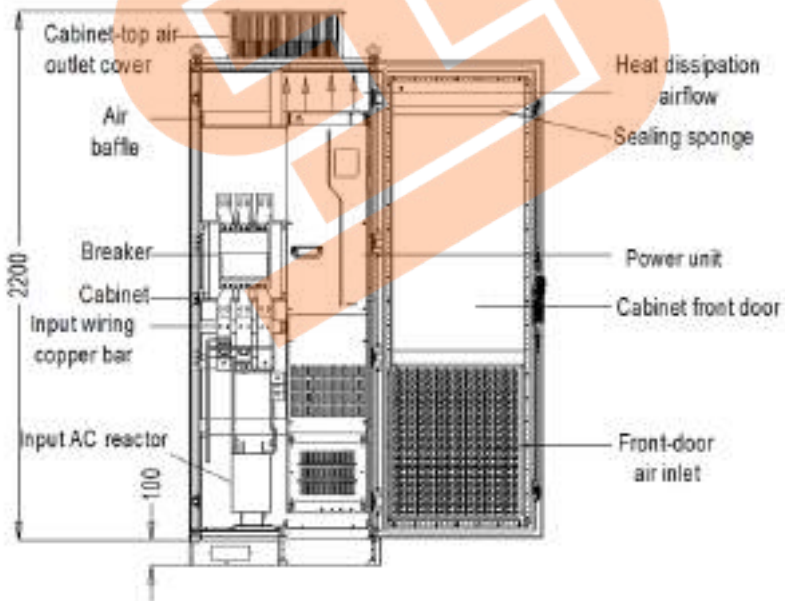

Figure 4-10 Recommended cabinet layout
- ✧ For in-cabinet mounting, see the cabinet layout diagram Figure 4-10. The cabinet frame is $2200 \times 800 \times 600$ (unit: mm, including the H200 cabinet ventilation top cover). To secure the in-cabinet mounting, you must mount the H100 cabinet base. The air baffle must be mounted at the top of cabinet to prevent the hot air in the VFD outlet from circulating within the cabinet. A 40X40 sealing sponge must be used at the position corresponding to the air baffle in the front door panel, which prevents air duct short circuit. In addition, air inlet vents must be made at the lower of the cabinet door.